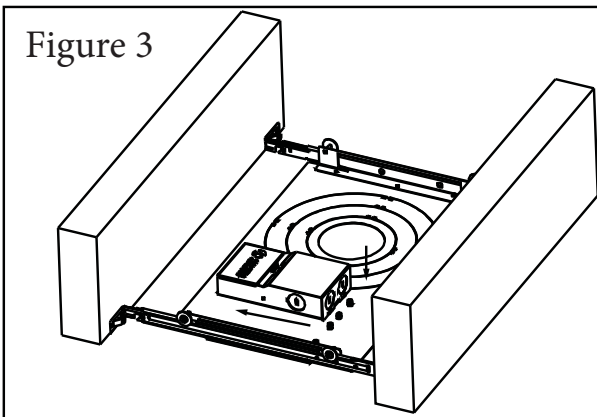

Figure 3
3. Secure Wafer Junction Box by placing it through the screw on the new construction plate and slide it down to secure it to the plate. See fixture installation instruction sheet for wiring method (See Figure 3).